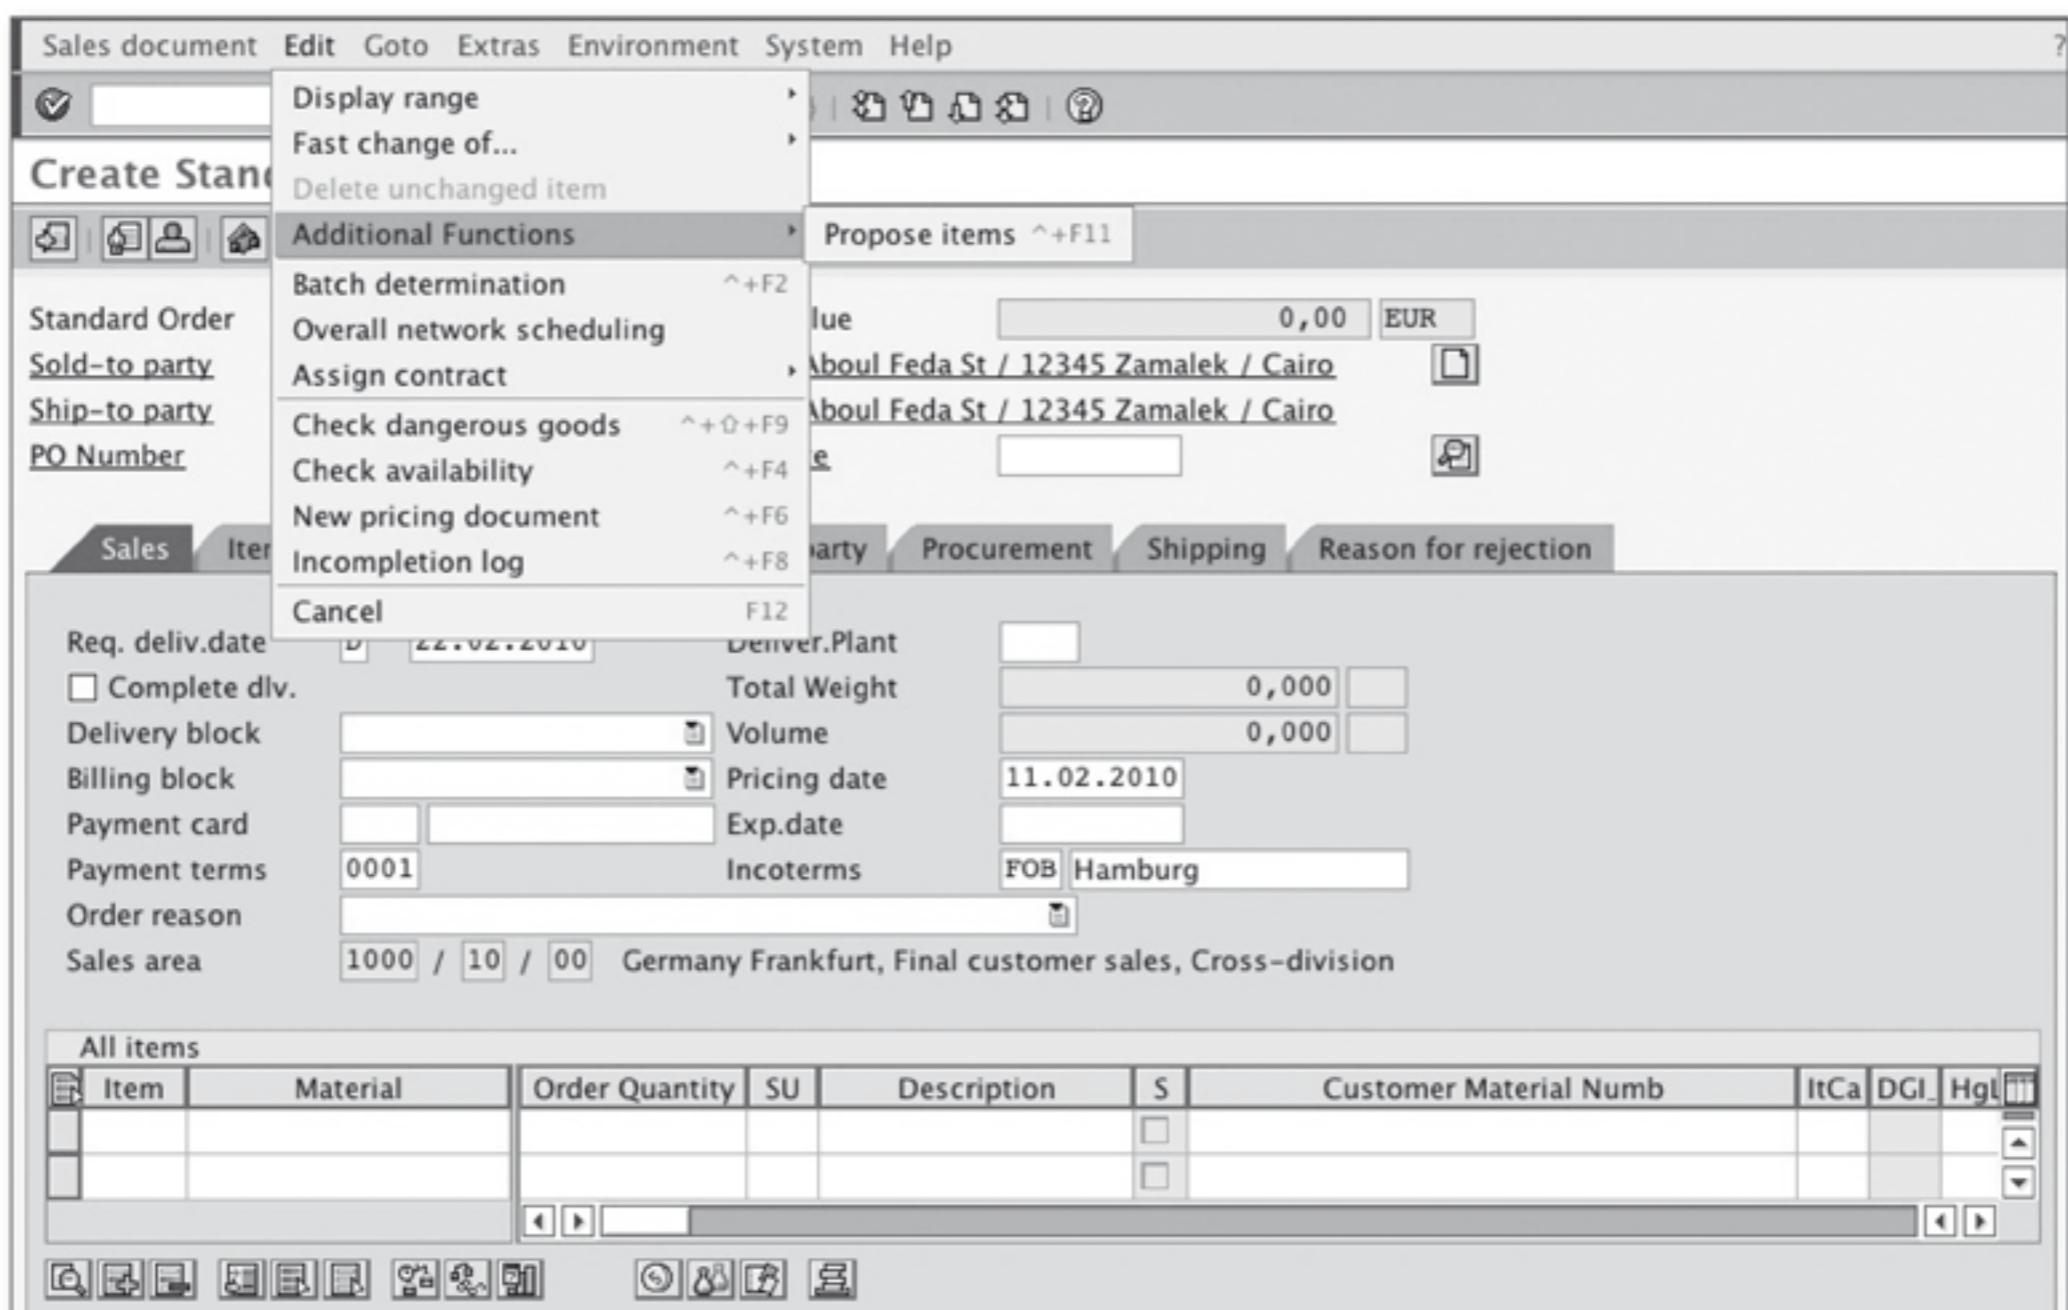

Figure 3.14 Create Standard Order: Overview Screen – Item Proposal Menu
4. To initiate the Item Proposal function, go to EDIT • ADDITIONAL FUNCTIONS • PROPOSE ITEMS, as shown in Figure 3.14.